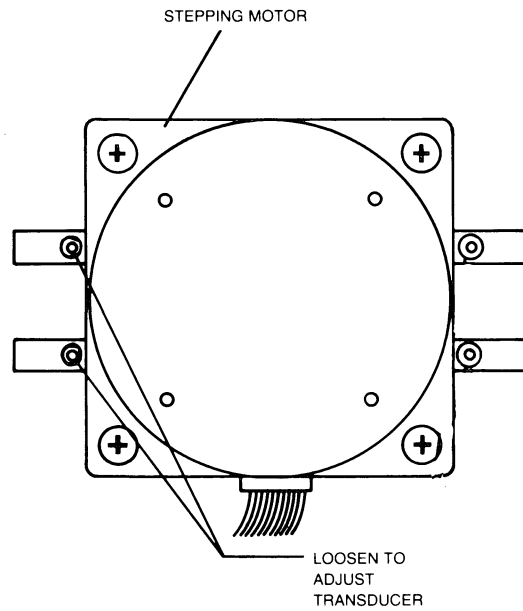

Figure 5.36 Horizontal Motion Transducer Adjustment
- (b) Rock the transducer mounting bracket so that the transducer moves towards or away from the slotted disk (see Figure 5.36).